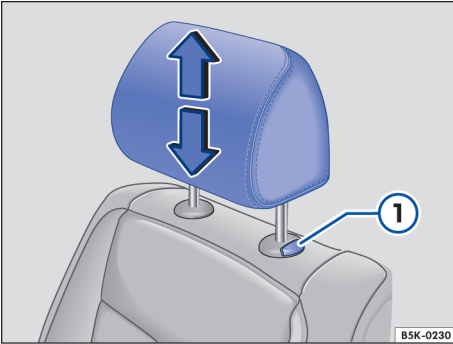
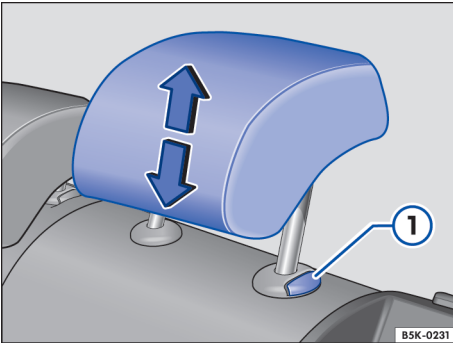

Fig. 58 Adjust the front seat head restraints
Fig. 59 Adjust the rear seat head restraints
- Push the head restraints up or down in the direction of the arrow, holding the buttons → Fig. 58 ① or → Fig. 59 ② if necessary → ▲ in *Introduction* on page 69.